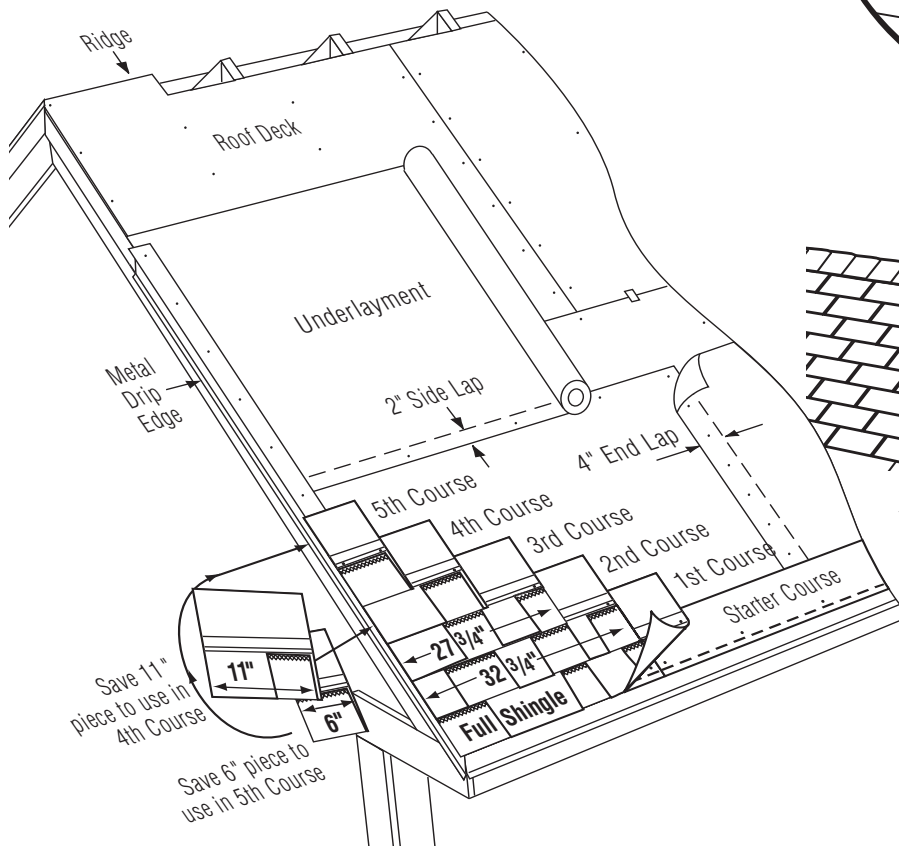

Figure 12-12: Applying the first 5 courses of Metric dimension.
1ST COURSE: Apply a full shingle at the lower left corner of the roof. Make the lower edge and left edge lie flush with the edges of the starter course (Figure 12-12).
1. Cut 6" off the left end of the first shingle and save this piece for later use. Apply the 32³/₄" (34" for Landmark TL) long piece over and above the first-course shingle. Leave the bottom 5⁵/₈" tab portion of the first-course shingle exposed (Figure 12-12).